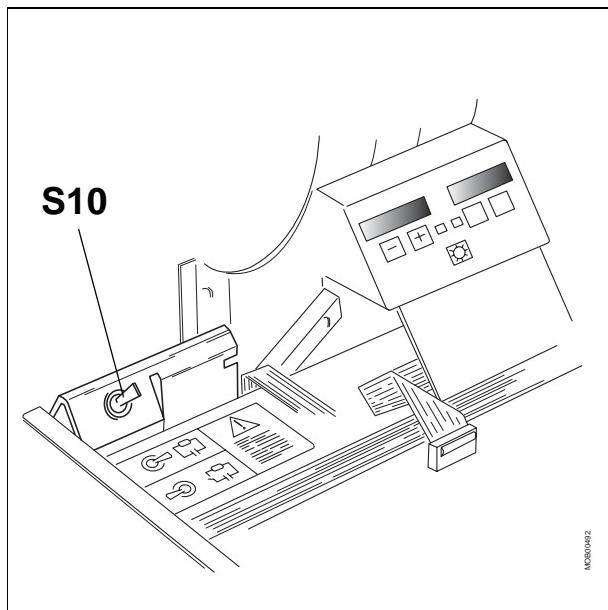

Fig. 1
- Discharge the capacitors in M10 and M11 with S10 (D7) (refer to Fig. 1).